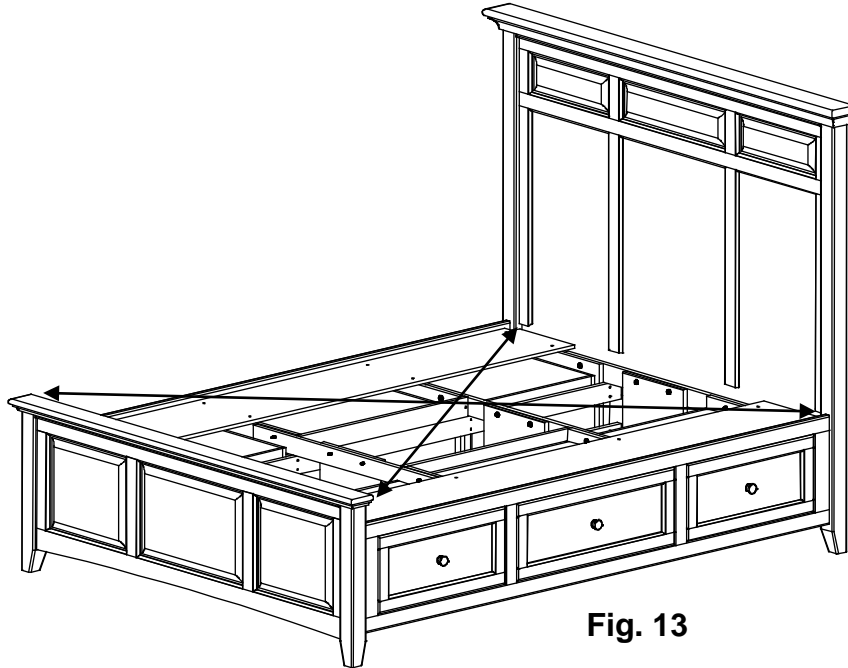

Fig. 13
13. To make sure the bed is square, measure the distance between opposing corners. If one of the measurements is larger, tap on a footboard leg until the measurement is equal. See Figure 13.